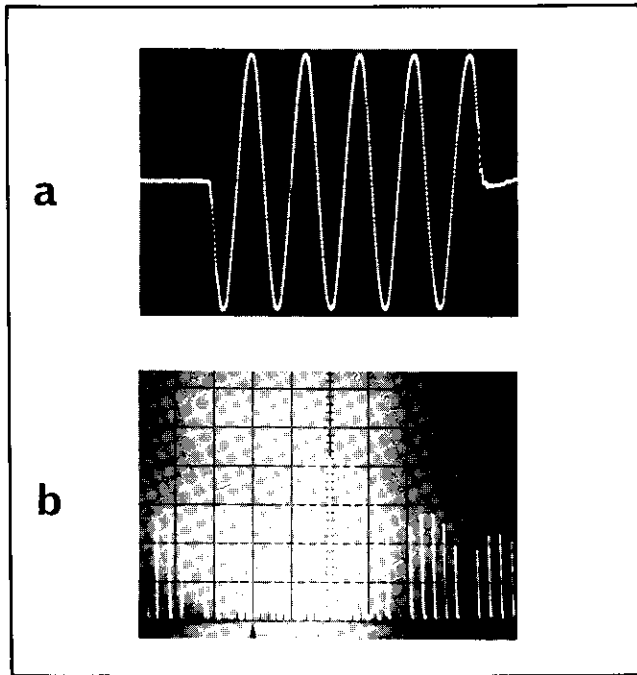

Figure 8. Pulse Modulator Output
24. Figure 8 shows the output of a typical Model 10534A, B Mixer used as a pulse modulator. Input signals to the Mixer are 30 MHz, 5 mw at L and pulses .165  $\mu$ sec wide, 300 mv high, repetition rate 1 MHz at X. The oscilloscope presentation, Figure 8a, is made with a sweep speed of 0.02  $\mu$ sec/cm, and shows the clean rf pulses obtainable. The spectrum analyzer display, Figure 8b, presents the pulse modulator output on a log vertical scale as a function of frequency, with a horizontal scale of 3.5 MHz/cm, showing dispersion and envelope of the output. Figure 8b shows that when connected as a pulse modulator, the Mixer may be used as a spectrum or "comb" generator.
output represents the sum and difference of the rf signal and the modulating signal, including the harmonics. A square pulse, to have a good shape, requires components at least to the 10th harmonic. In the example given in Figure 8 the 1 MHz repetition rate causes harmonics of 1 MHz and up; the rectangular pulse  $10^{-7}$  second wide causes the signal to have components of 10 MHz at least through 100 MHz. The spectrum presented in Figure 8b shows the relative levels of the carrier and signals to  $\pm 17.5$  MHz away from carrier frequency.